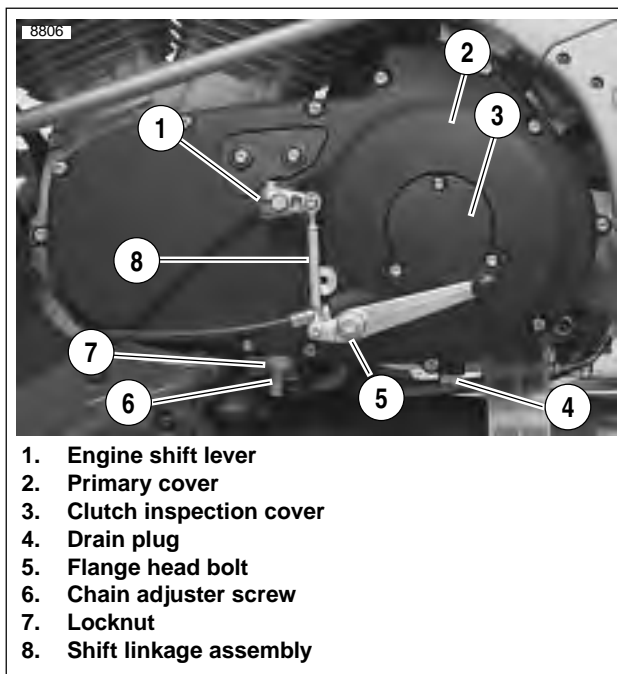

Figure 6-8. Installing Shift Linkage
12. See Figure 6-8. Install rubber washer and engine shift lever assembly (1).
13. After applying LOCTITE 272, install flange bolt (5) and shift pedal to primary cover, and tighten to **22-24 ft-lbs** (30-32.5Nm).
15. If the shift linkage assembly (8) was removed for any reason, apply Loctite 272 to fasteners and tighten to **36-60 in-lbs** (4-6.8 Nm). Adjust to rider comfort.